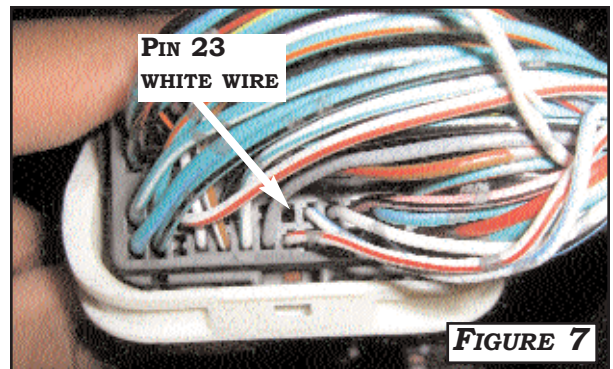

FIGURE 7
3. INSERT THE TERMINAL FROM THE **GRAY** CRUISE HARNESS SUPPLIED IN KIT TO PIN **23**. (FOR REFERENCE; PIN 1 GREEN/BLUE; PIN 2 GREEN/BLACK; PIN 16 GREEN/WHITE OR BLACK/RED). **FIGURE 7**